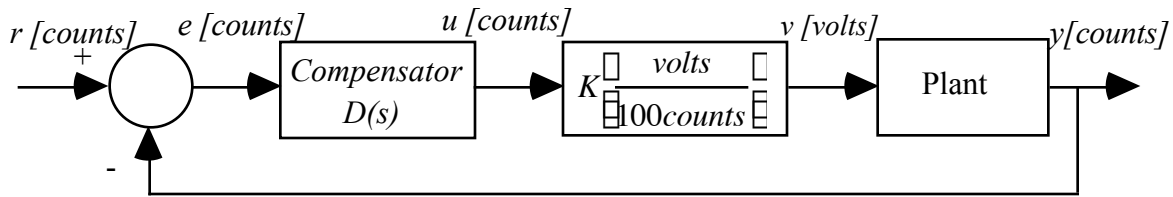

Figure 2: Closed-loop Block Diagram
g. Check whether your system has met the specifications stated in the pre-lab. If not, continue to iterate your design using SISOTOOL (Matlab 6.5 is available on the lab computers). If you are having problems with stability or excessive noise, check that your units agree as shown in the pre-lab near Figure 2. Try making the lag pole faster (moving it to the left) or increasing the compensator gain. Either of these options should speed up the response. Try to get the system to reach within 1% of steady state in less than 3 sec.